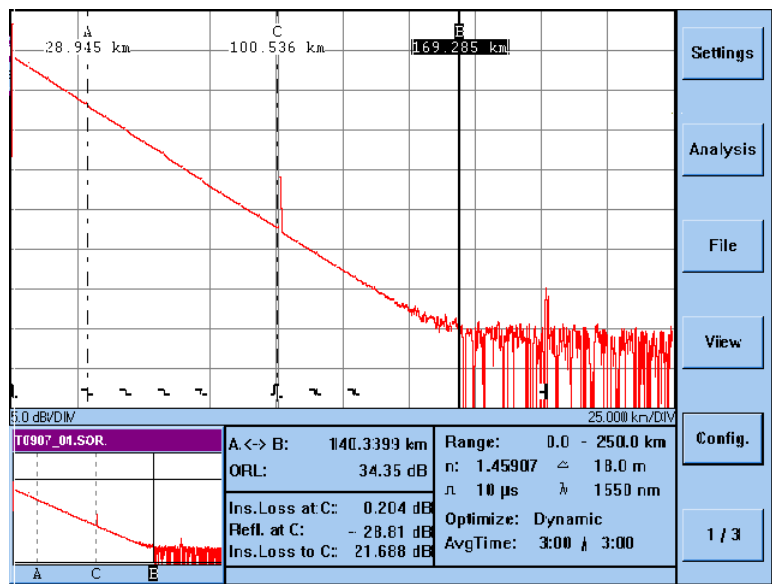

Figure 3-5 Measure Total Loss: Position Marker B
- 2 Move Marker B to where the backscatter and left rising edge of the End Reflection meet (Figure 3-5).